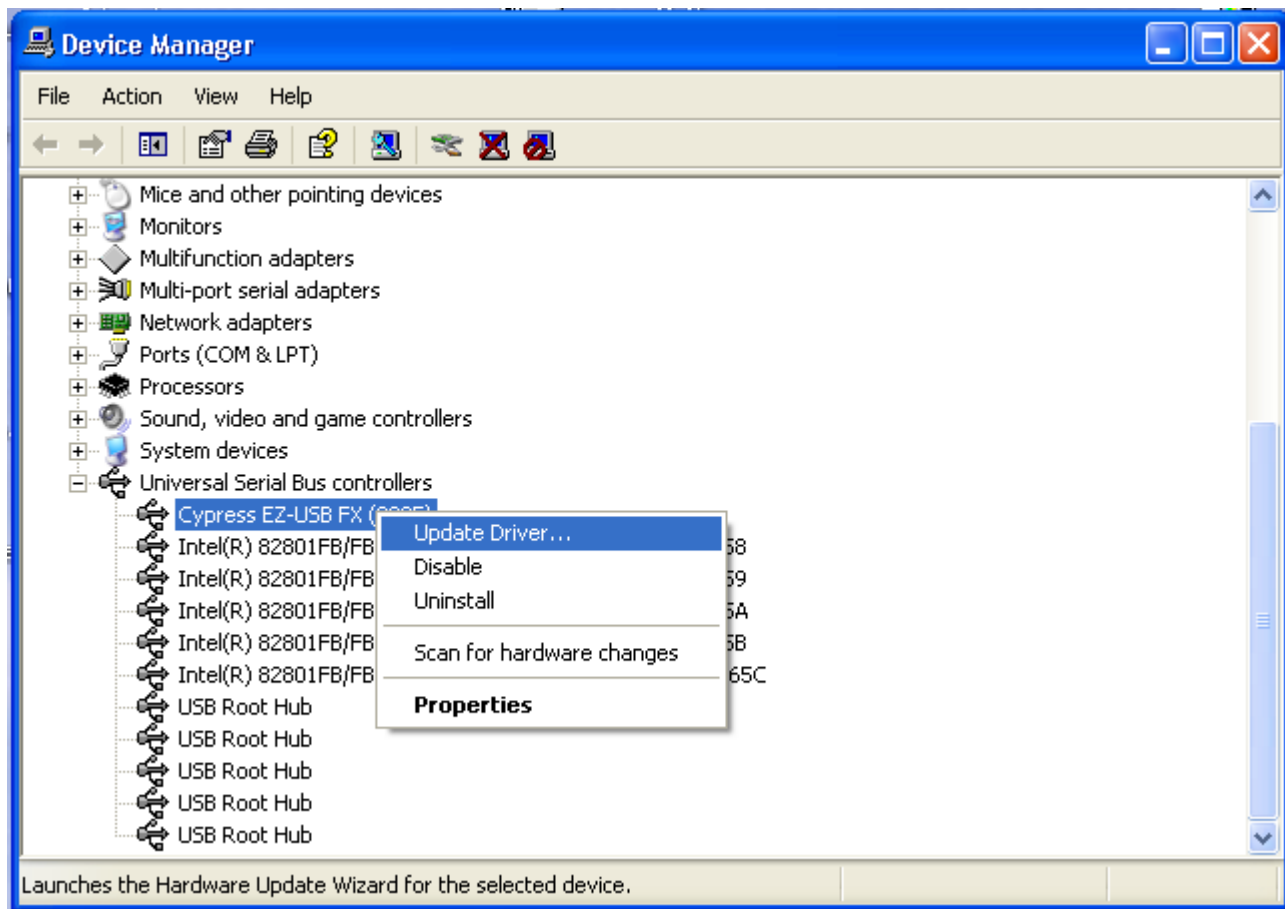

Fig 6: Updating the Flex-Radio Adapter Driver from the Device Manager
2. In Windows, open the **Control Panel**, double-click on **System**, select the **Hardware** tab and click the **Device Manager** button. Select the **Cypress EZ-USB FX** driver, right click and select **Update Driver...** (see Fig 6).